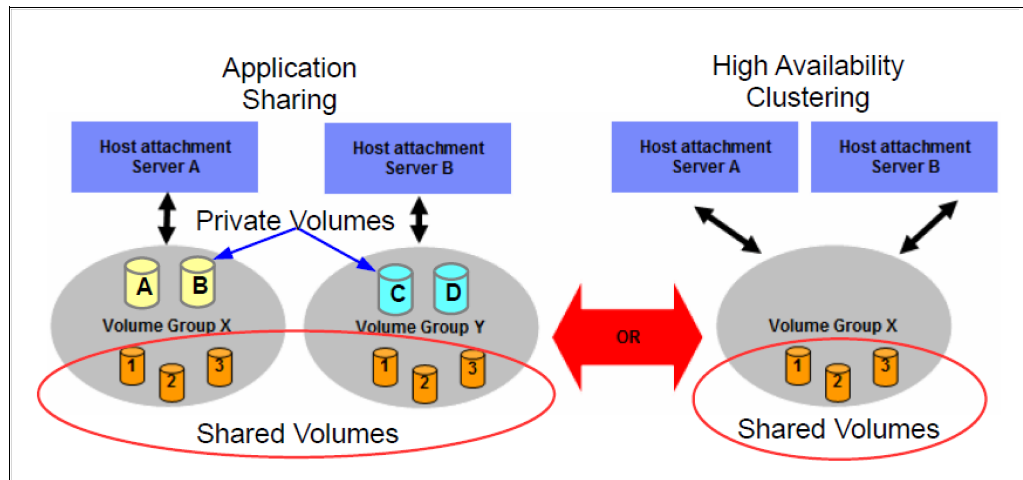

Figure 8-1 LUN configuration for shared access
- ▶ Assign multiple ranks to extent pools to take advantage of storage pool striping. Additionally, assign ranks from multiple device adapter (DA) pairs to an extent pool to spread the workload and increase performance.
- If LUN sharing is required, the following items provide two possible use cases (Figure 8-1 on page 231):